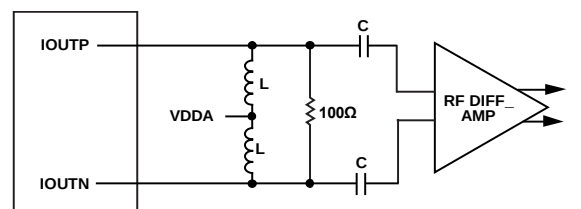

Figure 153. Interfacing the DAC Output to Self-Biased, Differential Gain Stage
Figure 153 shows an interface that can be considered when interfacing the DAC output to a self-biased differential gain block. The inductors (L) shown serve as RF chokes that provide the dc bias path to AGND. Its value, along with the dc blocking capacitors, determines the lower cut-off frequency of the composite pass-band response. (The dc blocking capacitors form a high-pass response with the input resistance of the RF differential gain stage.)